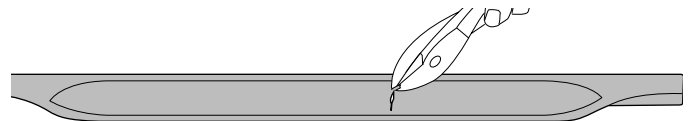

Figure 1
4.1 Before beginning a repair, carefully evaluate the extent of the closure damage. Remove any loose hanging pieces of polyurethane with side cutters. Be careful not to further damage the closure (Figure 1)